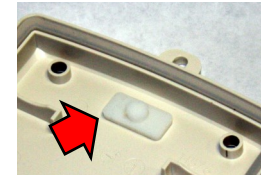

Fig. 4: Rubber Gasket
- On the inside rear housing, insert the **Rubber Gasket** that covers the slots for the **Wall Outlet PCB** prongs (see Fig. 4).